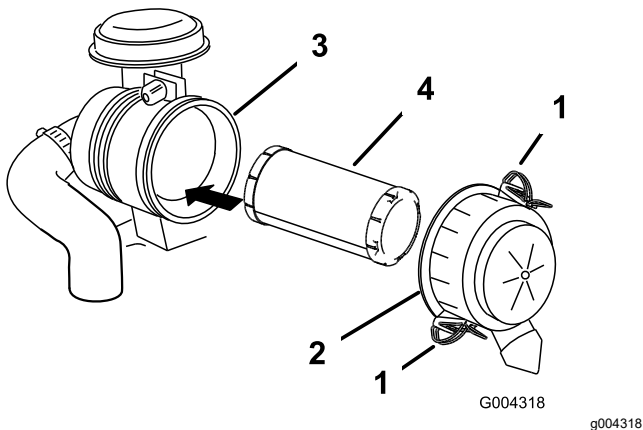

Figure 39
3. Release the latches on the air cleaner and pull the air-cleaner cover off the air-cleaner body (Figure 39).
5. Gently slide the filter out of the air-cleaner body (Figure 39).